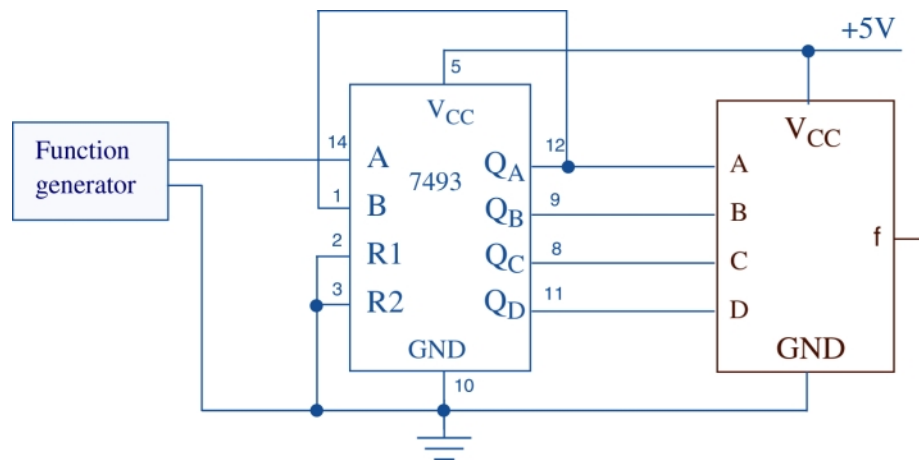

Figure A-4.1 The circuit for testing the implementations of function f .
4.1.1 Using as a reference the drawing of the physical layout from Figure 2.1-2(b), build on the proto board the physical circuit that implements the function f . To test the circuit, add to the protoboard the auxiliary generator of all combinations of the four variables, A, B, C, and D. Figure A-4.1 shows the complete test circuit in which a pulse source (the function generator) and a binary counter serve as the generator of all combinations of the input variables.
4.2.1 Using as a reference the prepared physical circuit diagram of Figure 2.2-1(b), build on the proto board the logic circuit which implements the function f using the 8:1 multiplexer component. To test the circuit which implements the function f , apply again the circuit shown in Figure A-4.1.